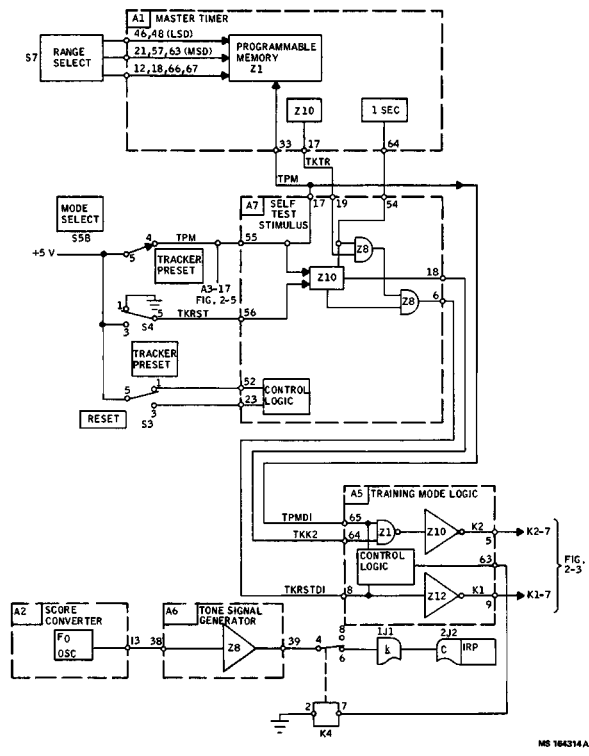

Figure 2-11. Tracker Preset Functional Diagram
b. Range Select. A range of 0500 to 2999m can be selected at the RANGE SELECT dial on the CDU. The selected range is applied to a programmable logic memory in master timer AI (fig. 2-11) in the form of most (MSD) and least significant digits (LSD). This memory controls the length of time that the tracker will be operated. After selecting TRACKER PRESET mode (TPM) (pin 4) on the MODE SELECT switch, RESET and TRACKER PRESET' switches are pressed. These switches enable signals within self test stimulus A7 logic which control CDU relays K1 and K2. Relays K1 and K2 are energized (fig. 2-3), removing 28 Vdc from the tracker brake (IJI-FF). A timer in AI sends a signal to self test stimulus A7 and relay K2 is deenergized, causing 28 Vdc to be applied to the tracker clutch through relay KI and connector IJ1-EE. The tracker then operates to the range stored in AI, at which time, signal TK/TR (fig. 2-11) is enabled for A7 logic, which then deenergizes relay KI, again applying 28 Vdc power to the brake. The tracker is now set at the target range. The READY lamp on the CDU is illuminated by a signal from control logic in training mode logic A5. The IR PROJ ON lamp is illuminated by a signal from the interlock circuit.